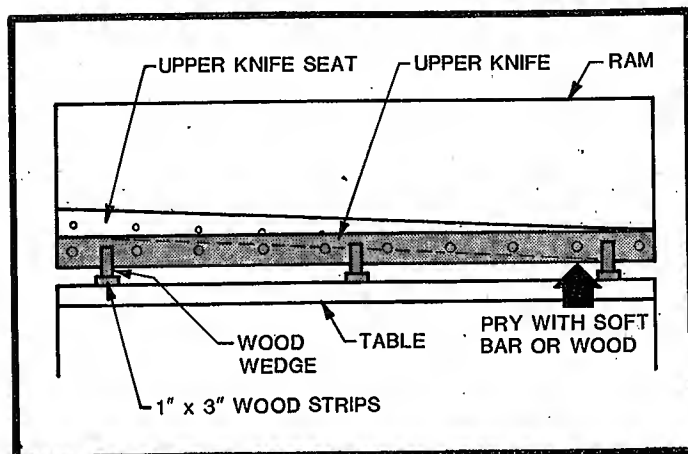

FIGURE 60
42. Pry the upper knife with a soft bar or strip of wood into the upper knife seat. To raise the upper knife into the knife seat, place a soft bar or strip of wood under the knife. Pry up as far as possible, slide wedges under knife to hold in position. Continue this procedure until knife is in the seat. Refer to Figure 60.